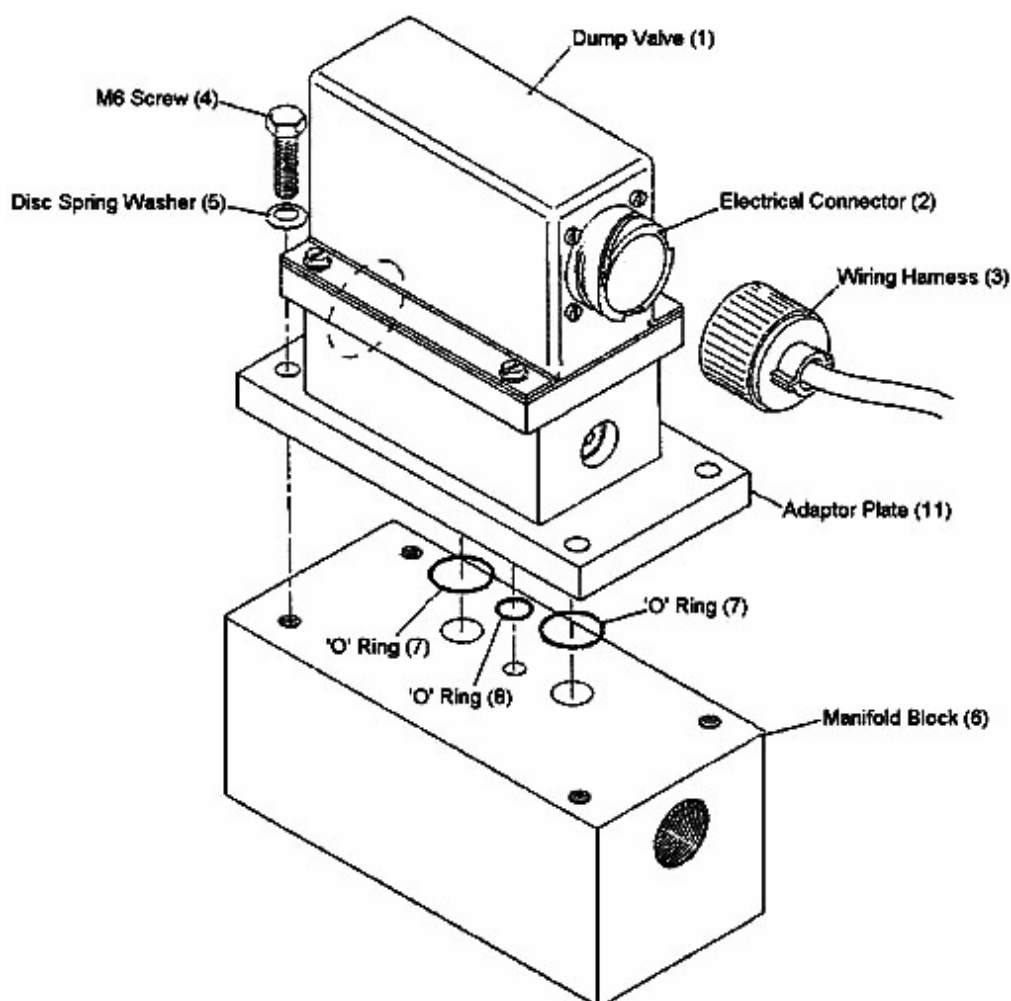

Figure 12.1: Westinghouse Dump Valve
- 12.2 Fit Westinghouse dump valves (as specified by Customer (see Job EY 0566)) to the manifold blocks (see Figure 12.1), as follows: